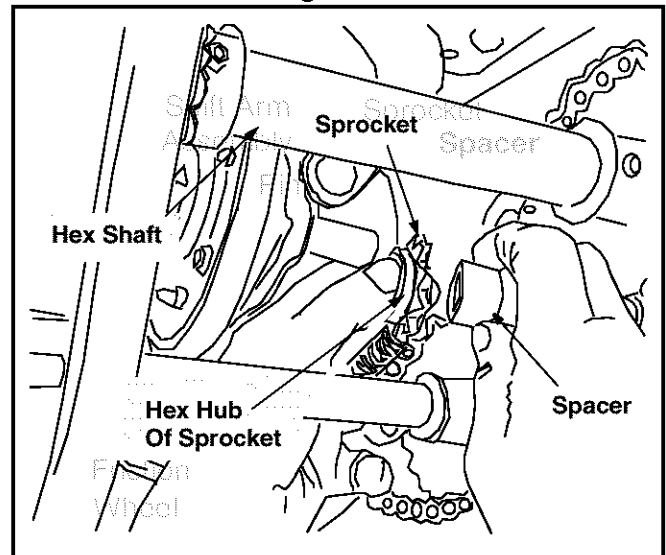

Figure 23
- Insert the pin from the shift arm assembly into the friction wheel assembly and hold assembly in position. See Figure 23.
NOTE: If the sprocket fell from the snow thrower while removing the hex shaft, place the sprocket on the hex shaft. Position the hex hub of the sprocket toward the friction wheel when sliding the sprocket on to the hex shaft. See Figure 23.